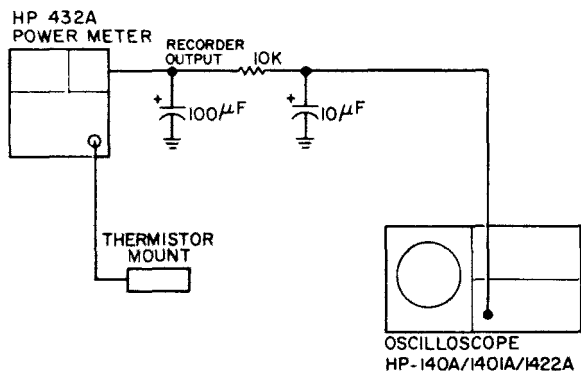

Figure 5-2. Zero Carryover Test Setup
- e. Connect 141A through filtering network to rear of 432A as shown in Figure 5-2. Set 141A controls as follows: